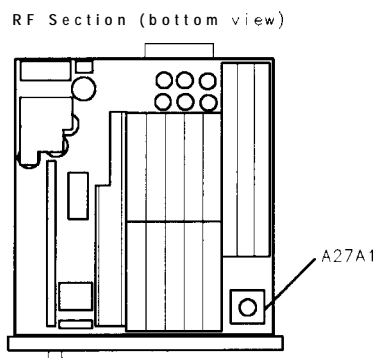

Figure 3-53. Location of A27A1 Adjustment
16. Remove the two adjustment cover screws from the A27 10 MHz Quartz Crystal Oscillator. See Figure 3-53 for the location of the A27 10 MHz Frequency Standard.
17. Use a nonconductive adjustment tool to adjust the 18-turn **FREQ ADJ** capacitor on the A27A1 10 MHz Quartz Crystal Oscillator for a Frequency Counter indication of 0.00 Hz. See Figure 3-53 for the location of the A27A1 10 MHz Quartz Crystal Oscillator.